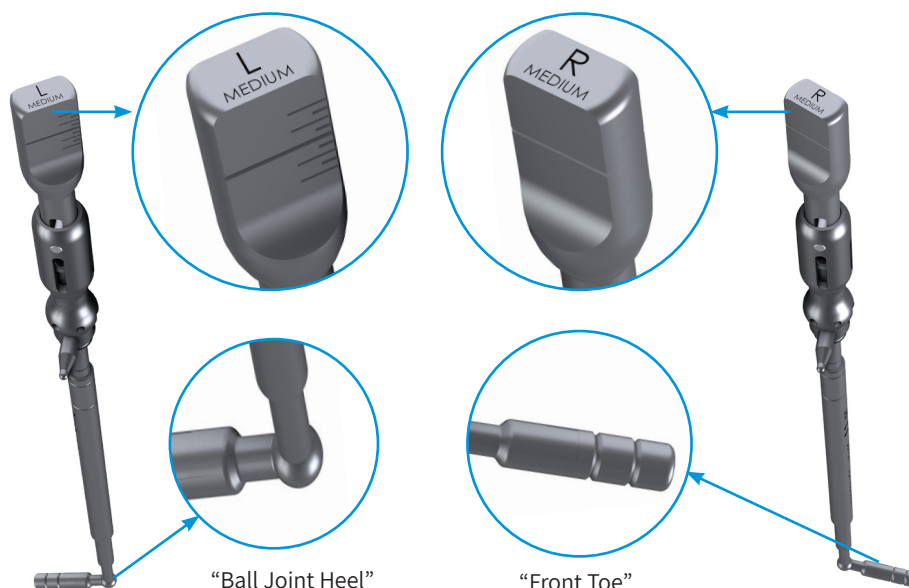

Figure 22: Left (L) or Right (R) Superior Crossbar
- i. Select either the Left (L) or Right (R) Superior Crossbar (Figure 22).
An “L” or an “R” is marked on the proximal end of each Superior Crossbar. Note the “Ball Joint Heel” and “Front Toe” of the Superior Crossbar (Figure 22).